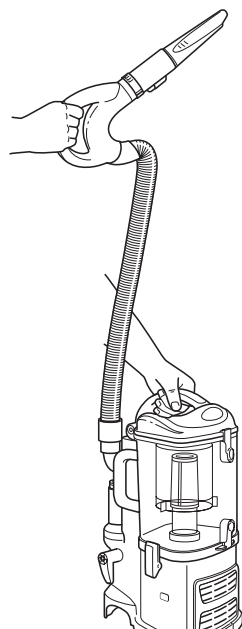

Fig. 15
- 4 Press the On/Off switch to the "I" position to turn the vacuum on for above-floor cleaning and hold the handle in one hand while you carry the portable *Lift-Away*® around the house with the other hand. (Fig. 15)